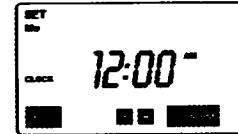

Figure 5
- Push CONFIRM button to accept the time setting and advance to set watering days. (See Figure 5)